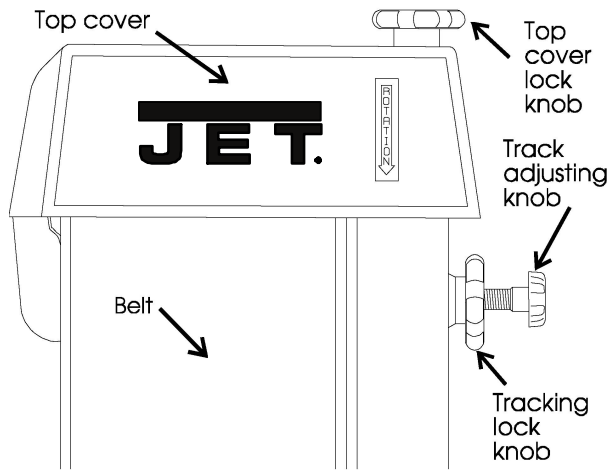

Figure 15: Top cover components
2. Remove the lock knob and top cover. (See Figure 15.)